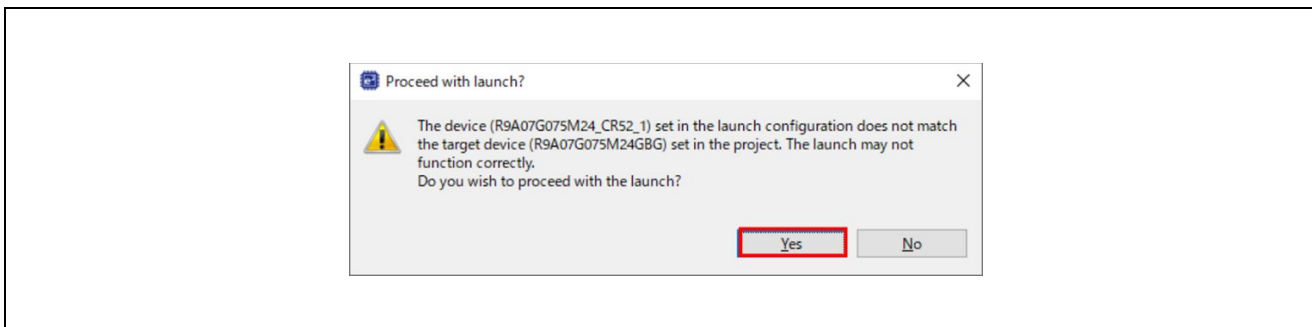

Figure 91. Warning Window of Device Name
4. When Figure 91 is shown, please click **Yes** to proceed with the launch.